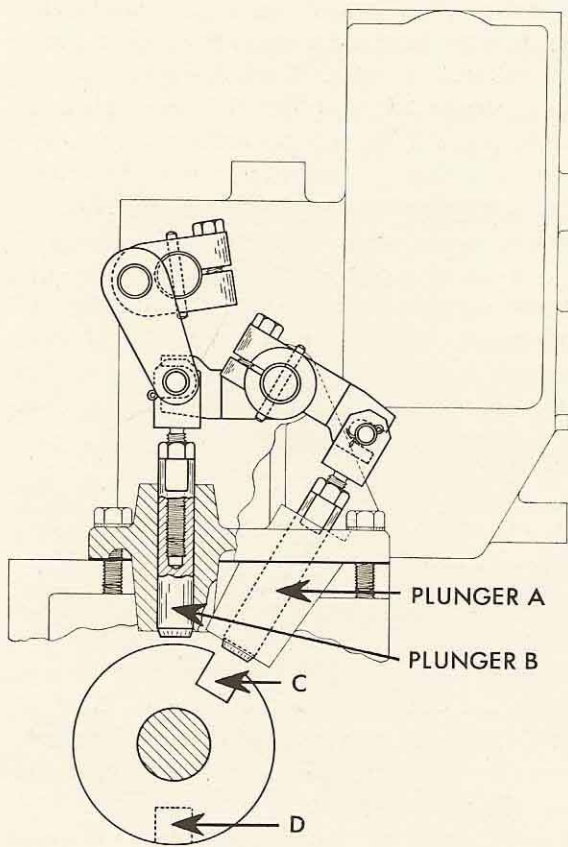
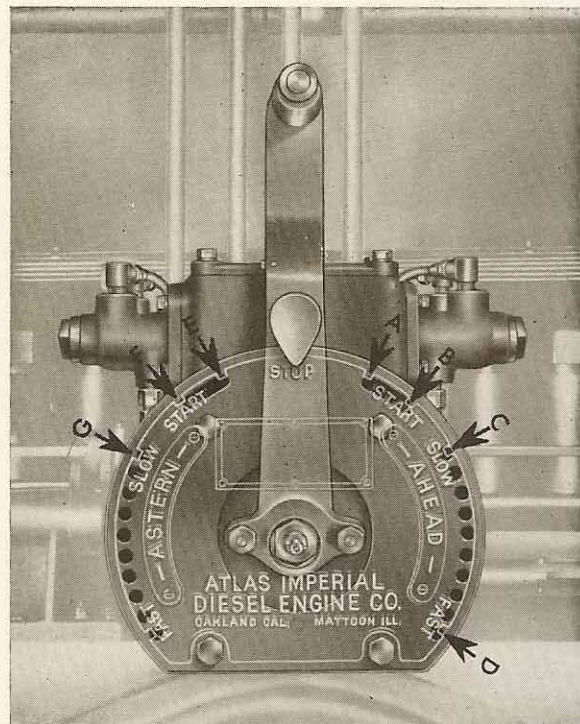

FIGURE 18-15
FIGURE 18-16
The two plungers, shown in Figure 18-15, are located one ahead of the other in a fore and aft direction. Each plunger is directly over adjacent flanges on the latch shaft. Plunger (A) and notch (C) mate for the ahead position while plunger (B) and the dotted notch (D), which is on the next latch-shaft flange, mate for the astern position.
27. OPERATION OF THE INTERLOCK: In Figure 18-15, the latch shaft is in the ahead position and the control lever in the stop position. Both plungers are withdrawn clear of their respective flanges. We will assume that the operator is starting the engine ahead. The control lever is moved ahead to (A), Figure 18-16. In this position the latch-shaft ram pilot valve is opened to shift the latch shaft to the forward position. The shaft is already
in this position so the notch (C), Figure 18-15, is in line with the plunger (A). The lever can now be moved to (B), Figure 18-16, where the starting air is supplied. After the engine has gained starting momentum on air, the lever is moved to (C) or other run ahead positions.
We now assume that the engine is to be reversed. The lever is shifted to the stop position, which withdraws the plunger (A) from the notch (C), Figure 18-15. After waiting in this position for the engine to stop turning, the lever is moved to (E), Figure 18-16. The latch-shaft ram pilot valve now opens to rotate the latch shaft to the astern position. Further movement of the control lever forces down plunger (B), Figure 18-15. It is apparent that this plunger cannot move down until the latch shaft has turned sufficiently to bring notch (D) directly under the plunger (B). In Figure 18-15, notch (D) is 180 degrees or one half turn out from mating with plunger B, and it is this half turn which is required to shift the latches from the ahead to the astern posi-
tion. As soon as this latch shaft rotation is completed, the plunger (B) mates with the notch (D), and the control lever can be moved to (F), Figure 18-16, where starting air is supplied.
CAUTION: It should be understood that this interlock stop is primarily a safety device to prevent starting the engine before completion of the latch shaft shift, and it should not be abused by deliberately jamming the lever over against it, as this will result in excessive wear throughout the mechanism, if not, in damaged and broken parts. Normally the latch shaft will shift almost immediately upon opening the pilot valve, and it will be possible to move the control handle right along to the air start position, with only a slight pause at (A) or (E), Figure 18-16. During this pause, while the latch shaft is shifting, the control handle should not be moved past (A) or (E), or the plungers will be forced against the webs, causing wear and possible damage.